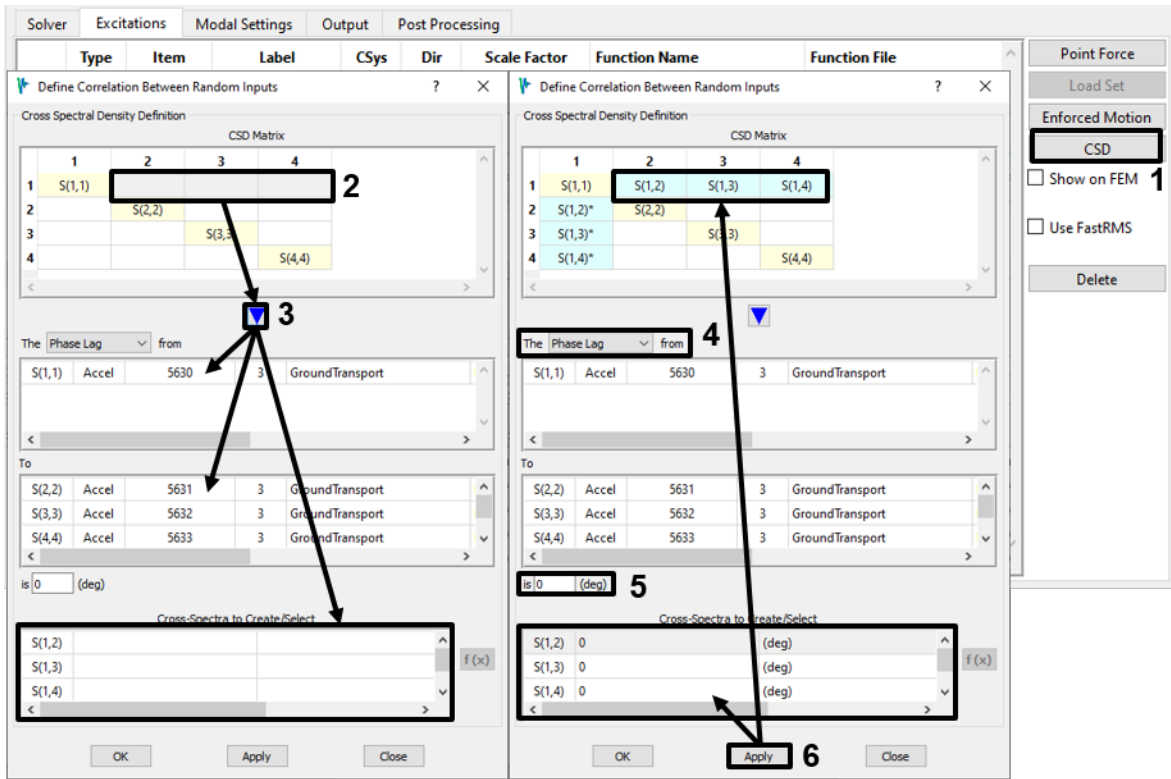
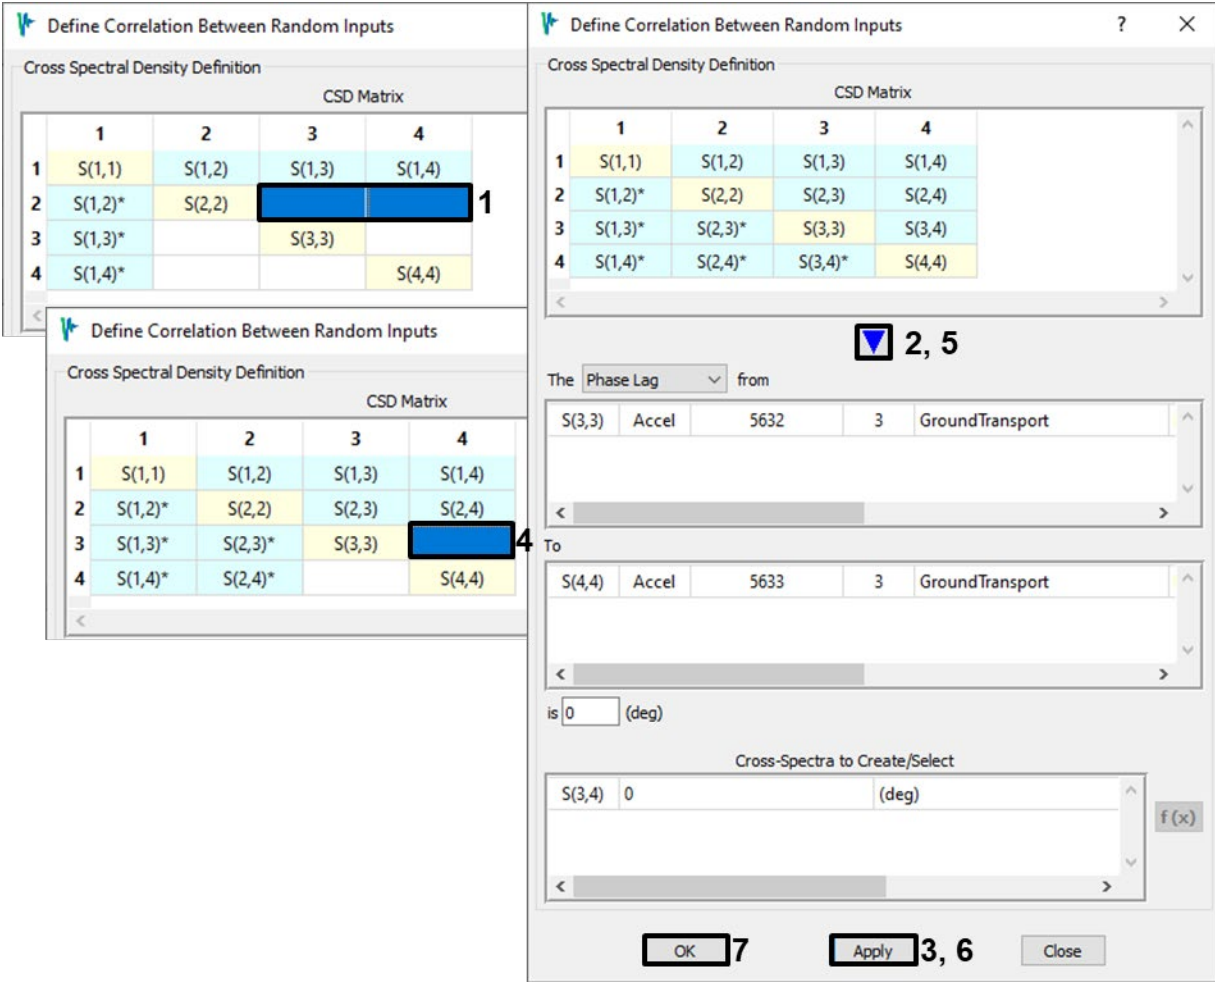

Figure 4-61. Define 0-degree phase lag correlations from the first input PSD to the other three.
Figure 4-62. Finish defining 0-degree phase shift correlations among all the input PSDs.
- On the *Excitations* tab, bring up the CSD dialog. Select the entire first row of the *CSD Matrix* table and click the **Define CSDs for Selected Cells** button  (Figure 4-61). This prepares the dialog to create correlations from the first input PSD to the other three PSDs. Make sure the **CSD Type** pulldown is set to *Phase Lag* and the **Phase/Time lag** field is set to 0 degrees. When you click the **Apply** button, the defined CSDs are created and the *CSD Matrix* table is updated. Continue selecting rows, clicking the  button, and clicking **Apply** until the entire matrix is filled (Figure 4-62). When you click **OK** to close the CSD dialog, the CSDs appear as additional excitations on the *Excitations* tab (Figure 4-63). The new event is now ready to solve.